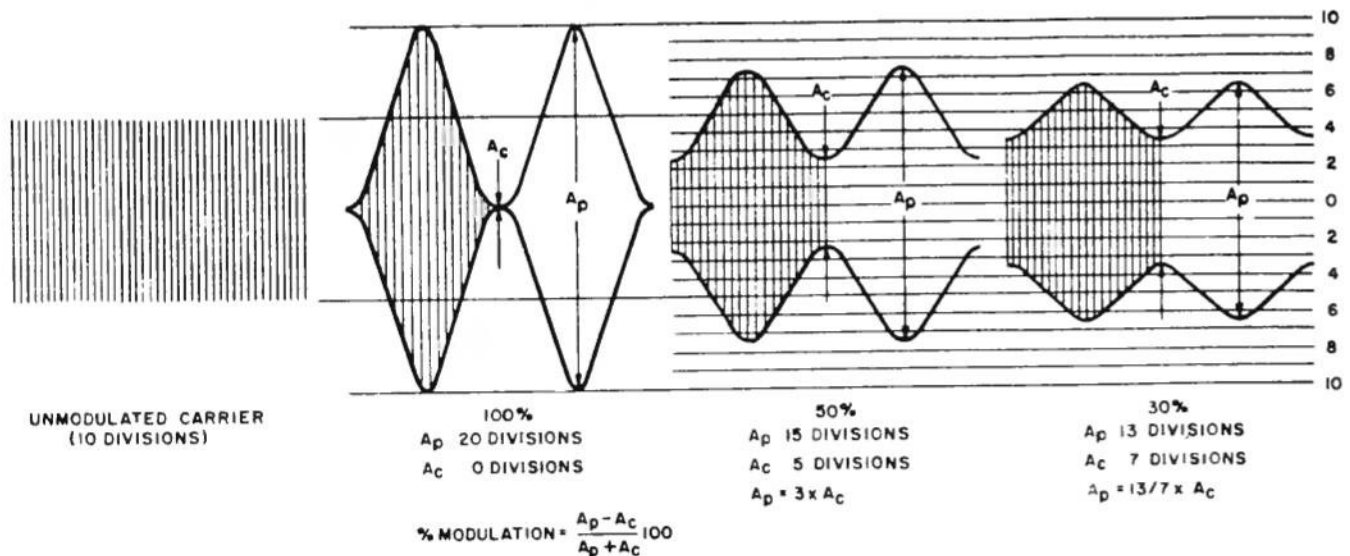

Figure 6-10. Percentage Modulation Chart.
6-12. RECALIBRATING PERCENTAGE MODULATION. (See figure 6-10).
g. Adjust R113 % MODULATION control (see figure 3-1) until the modulated pattern on the oscilloscope corresponds to 50% modulation (see figure 6-10).